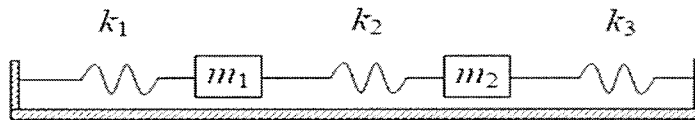

Fig.3
3. Derive the equation of the motions for the system shown in Fig .3